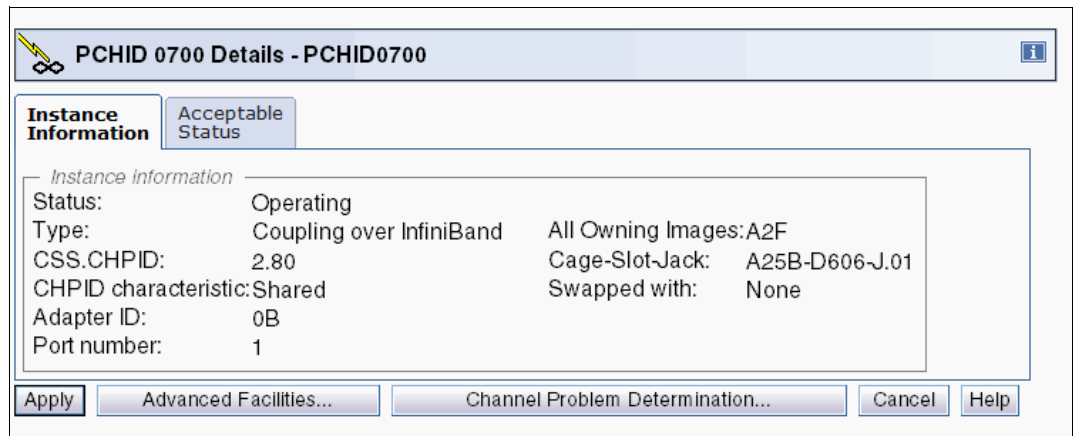
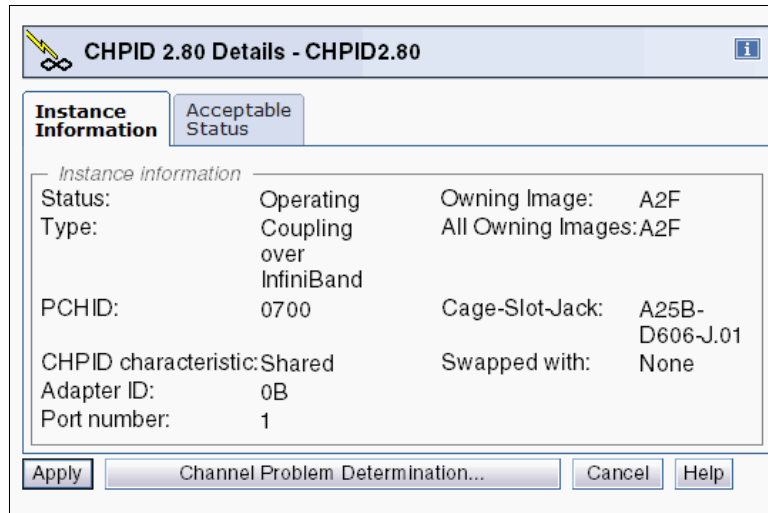

Figure 7-20 PSIFB coupling link details: Processor view
Figure 7-22 PSIFB coupling link details: Logical partition view
9. To get additional information, click the **Channel ID** (PCHID or VCHID) you want to look at. A detailed coupling link status is shown in Figure 7-20 on page 221.
11. To get additional information, click the logical channel number that you want to look at. A detailed coupling link status is shown in Figure 7-22 on page 223. This is similar, but not identical to, the display that is shown in Figure 7-20 on page 221.